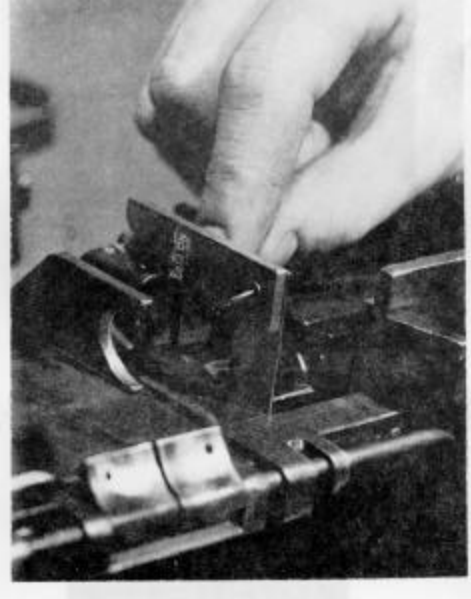

Figure 6. Placement headspace gauge
(1) Raise the cover. Push back the charging handle (2-4 inches) so that the lug on the barrel locking spring is aligned with the 3/8-inch hole in the right side plate. Remember, to screw or unscrew the barrel, always align the lug on the barrel locking spring.
(2) Cock the gun. Pull the charging handle all the way to the rear. Once the bolt locks to the rear, continue holding the charging handle then depress the bolt release. Ride the bolt forward 1/2 way then allow the bolt to slam forward. If the bolt is not fully seated forward, repeat the task.
(3) Insert the no-fire gauge between the barrel extension and trunnion block. This will ensure that the locking surfaces of the breach lock and the bolt are in proper contact. This prevents the driving spring group and weight of the parts from giving a false determination.
(4) Raise the extractor. Insert the GO end of the headspace gauge in the T-slot between the face of the bolt and the rear end of the barrel. If the GO end of the gauge enters freely down to the center ring of the gauge, attempt to insert the NO GO end of the gauge. If the GO end enters and the NO GO end does not enter, correct headspace is set. (See Figure 6.)
- (b) Insert the FIRE gauge between the barrel extension and the trunnion block and allow the barrel extension to close slowly on the gauge. (See Figure 6.)